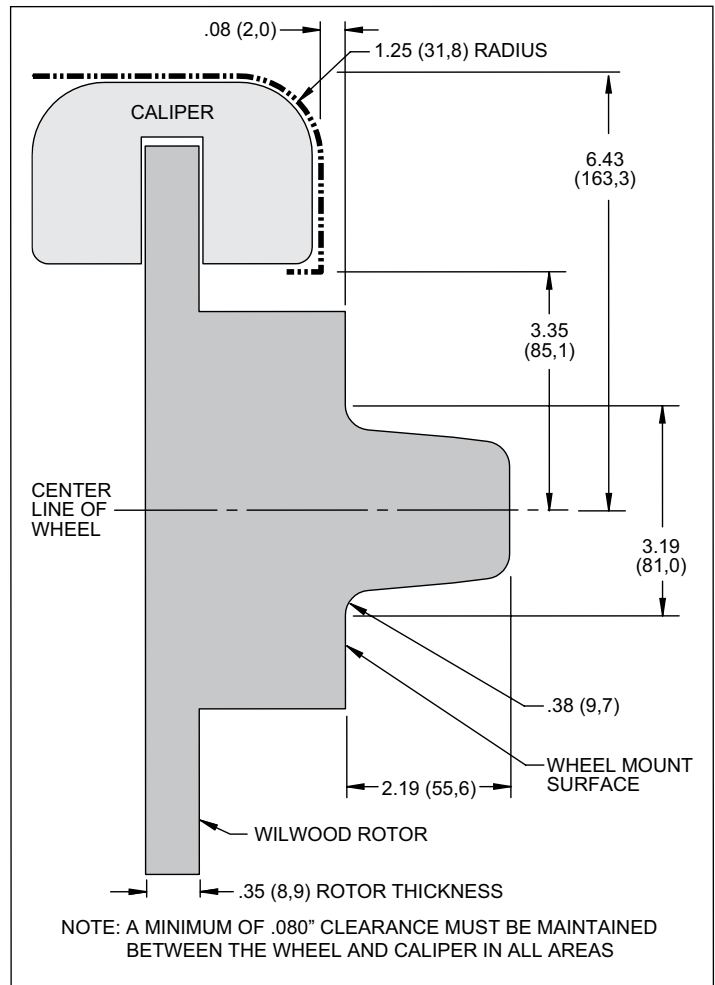

Figure 2. Wheel Clearance Diagram
- Review the wheel clearance diagram (Figure 2, page 5) to verify that there is adequate clearance with the wheels you will be using with the installation.
- Verify your wheel clearance using Figure 2.